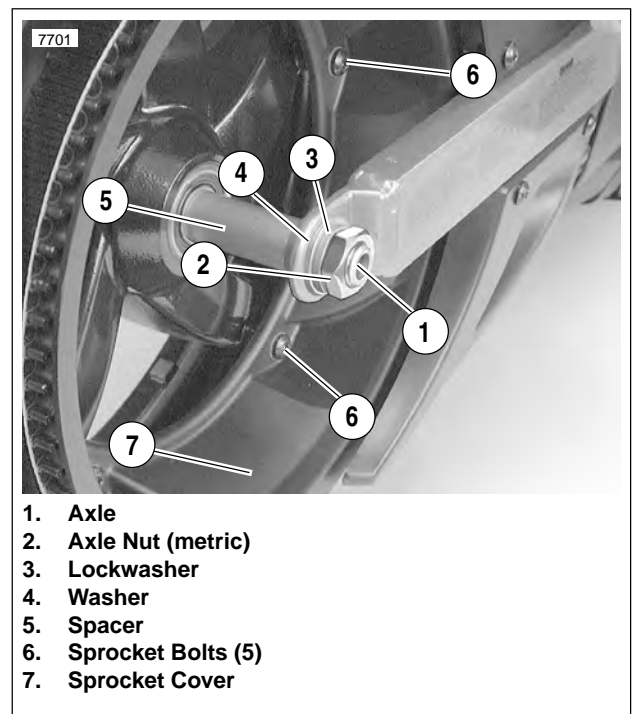

Figure 2-11. Rear Axle, Right Side
- a. See Figure 2-11. Hold right side spacer in place.